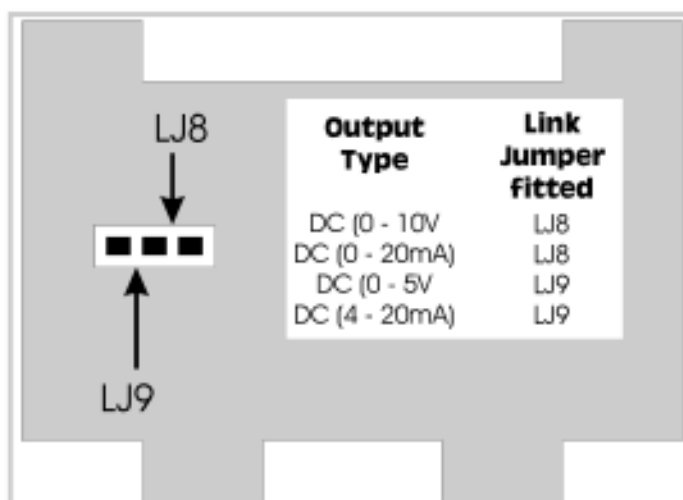

Figure 2-5 DC Output 3 Option PCB - Link Jumpers
2. DC Output Option PCB (link jumpers as shown in Figure 2-5) - Recorder output only.